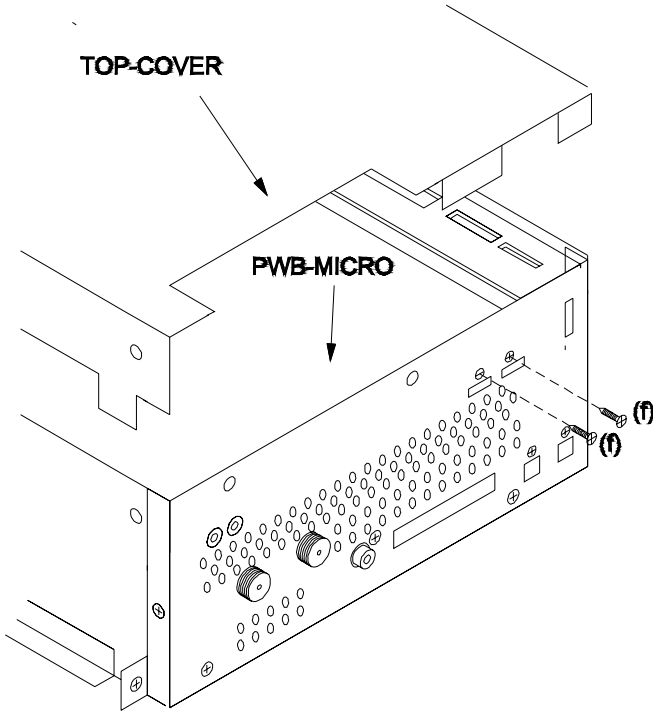

**Figure 3: PWB-POWER and Chassis Upper Shield**
**PWB-POWER Removal (Figure 3)**
**Chassis Upper Shield Removal (Figure 3)**